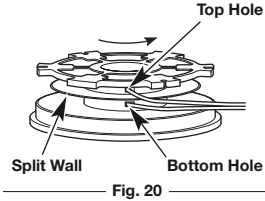

Fig. 20
- Using one split end, insert one line into the top hole and the other line into the bottom hole in the inner reel (Fig. 20).